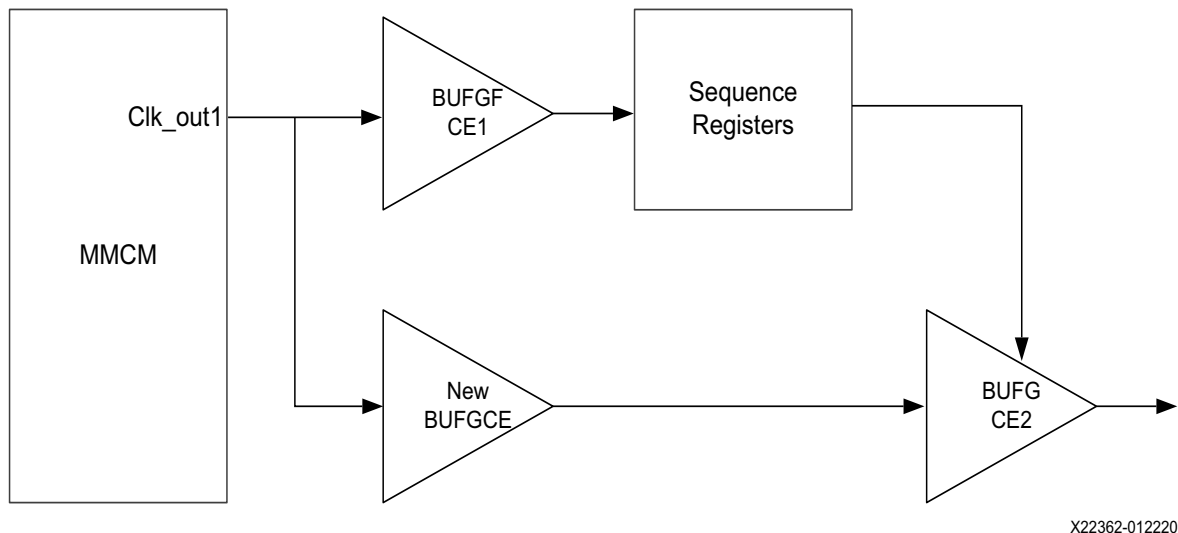

Figure C-1: Safe Clock Startup Failing Path
1. Add an additional `BUFGCE` cascaded in the failing clock path along with the existing `BUFGCE` in safe clock startup path. Figure C-1 shows the failing path for the `clk_out1`. Insert New `BUFGCE` between `MMCM` and the `BUFGCE2` as shown below.